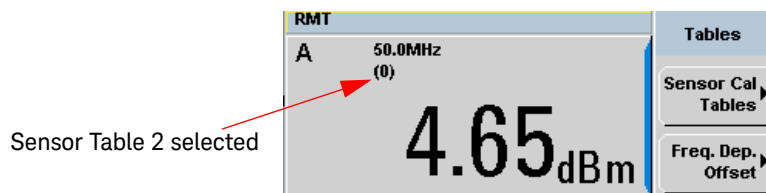

Figure 7-7 Frequency dependent offset indicator
- 4 Press **Done** again to display the measurement screen. **Figure 7-7** shows which offset table is selected.